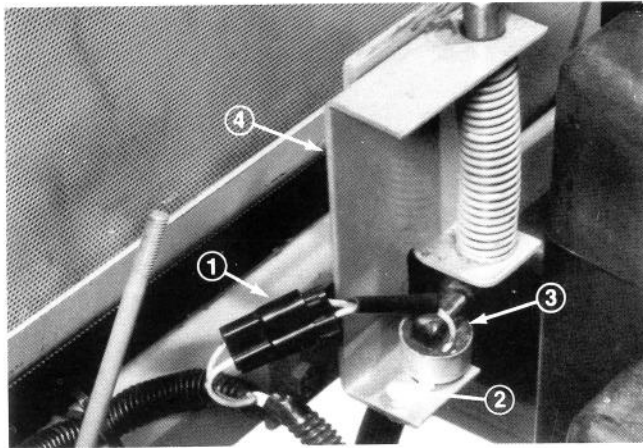

Figure 33
2. Remove instrument cover, disconnect negative battery cable from battery and separate wire harness connectors (Fig. 33). Remove capscrew and locknut (Fig. 33) and lift switch up to disengage locating pin on bottom of switch from hole in mounting bracket.
3. To install new switch, set it on mounting bracket (Fig. 33) and insure locating pin on bottom of switch fits into hole in bracket. Secure switch in place with capscrew and locknut.